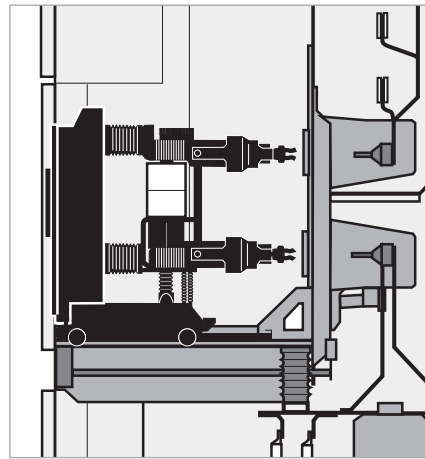

Fig. 40
3. Check position of the truck (Fig. 40) through the inspection port.